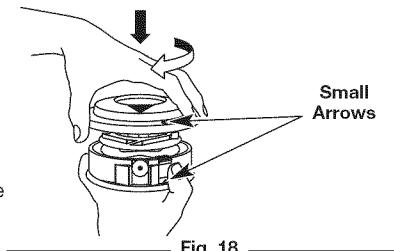

Fig. 18
1. Align the small arrows on the spool (Fig. 18).
2. Push the spool cover down and twist it clockwise until it locks into place (Fig. 18).